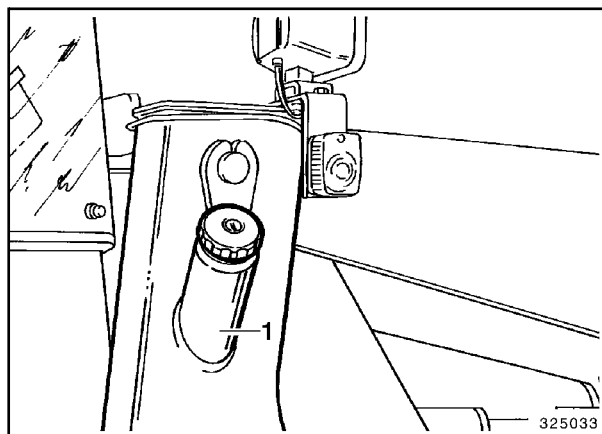
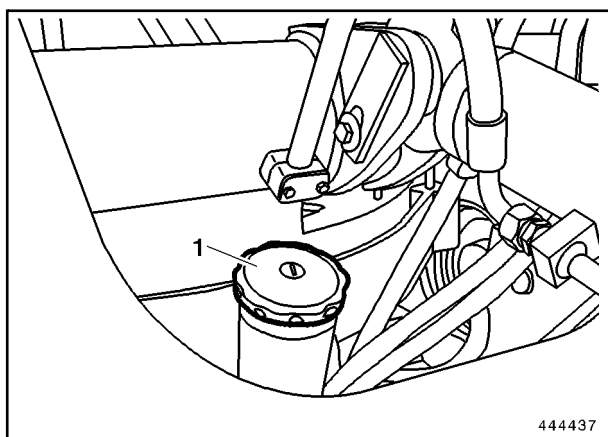

Fig. 2
Fig. 1
- Unscrew cap of filler neck (1, Fig. 1 and Fig. 2).